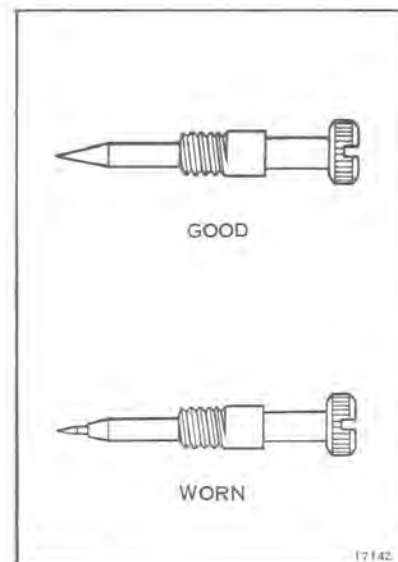

Figure 6-2
- g. Remove and inspect the points of the high speed and idle mixture screws. See Figures 6-3 and 6-4. Through misuse, either mixture screw point may be bent (extruded) from being forced into the casting seat or possibly broken off in the casting (see Figure 6-2). If either mixture screw is damaged, be sure to inspect the casting. If the adjustment seats are damaged, a new body casting is required. Check for clogged inlet and return line screen.